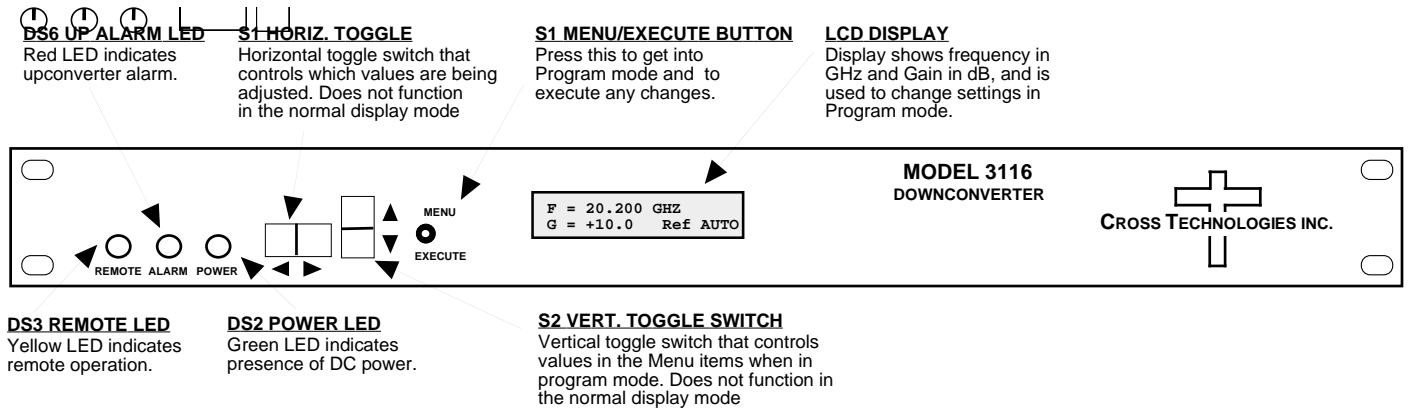

FIGURE 2.2 3116-192#-2050 Front Panel Controls and Indicators
Figure 2.2 shows the front panel controls and indicators.
5. Be sure DS2 (green, DC Power) is on and DS6 (red, Alarm) is off (Figure 2.2).
Alarm indications appear on the LEDs (see Figure 2.2).